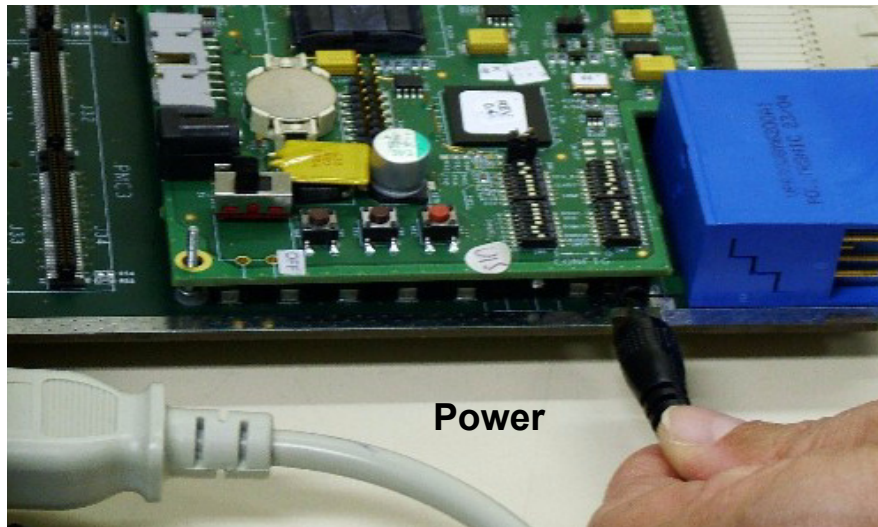

Figure 2-9. Connecting Power input to the PIB
7. Connect the power supply to the voltage input as shown in Figure 2-9.